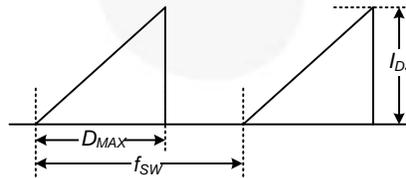

Figure 4. Repetitive Peak Switching Current
- Repetitive peak switching current when the inductive load is assumed: limited by maximum duty (DMAX=0.73) and junction temperature (see Figure 4).